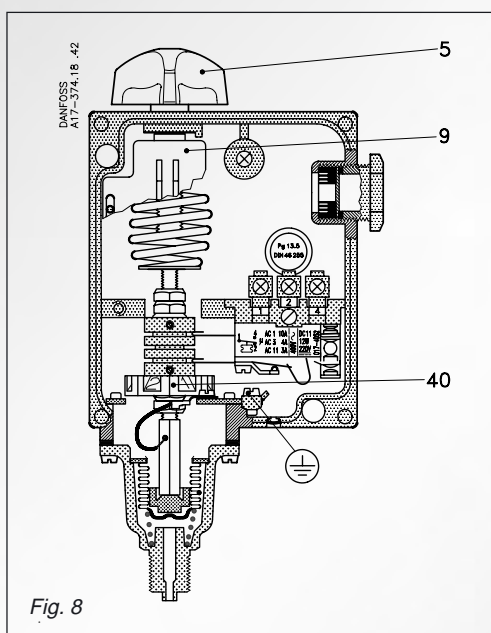
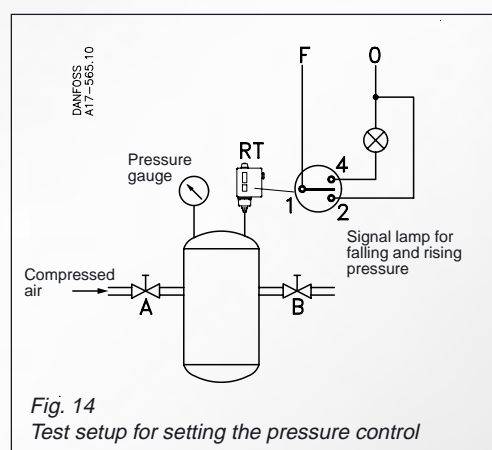

Fig. 8
Fig. 14
The range is set using the setting knob (5) fig. 8 while reading the range scale (9). The pressure set is the break pressure for contacts 1-4 (see fig. 13).
The RT 200L must be set using the setting knob (5) fig. 8 page 11 at 3.5 bar (35 m wg) minus the fixed differential of 0.2 bar.
The neutral zone, $35 - 32 = 3$ m wg, corresponding to 0.3 bar, must be set on the neutral zone disc (40) fig. 8 page 11. According to the diagram fig. 12 the disc setting is 1 or just over. A more accurate setting can be obtained by using the test setup shown in fig. 14.